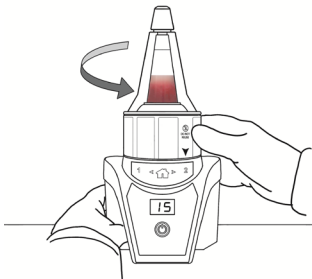

Figure 10
- Rotate the Disposable Unit ▼ to Position 2 to start the plasma removal mode (Figure 10).